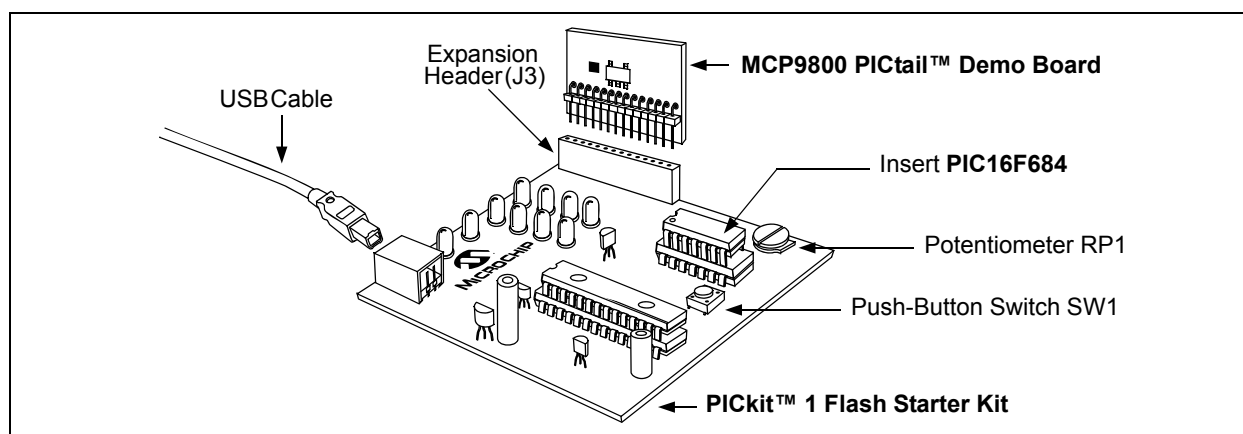
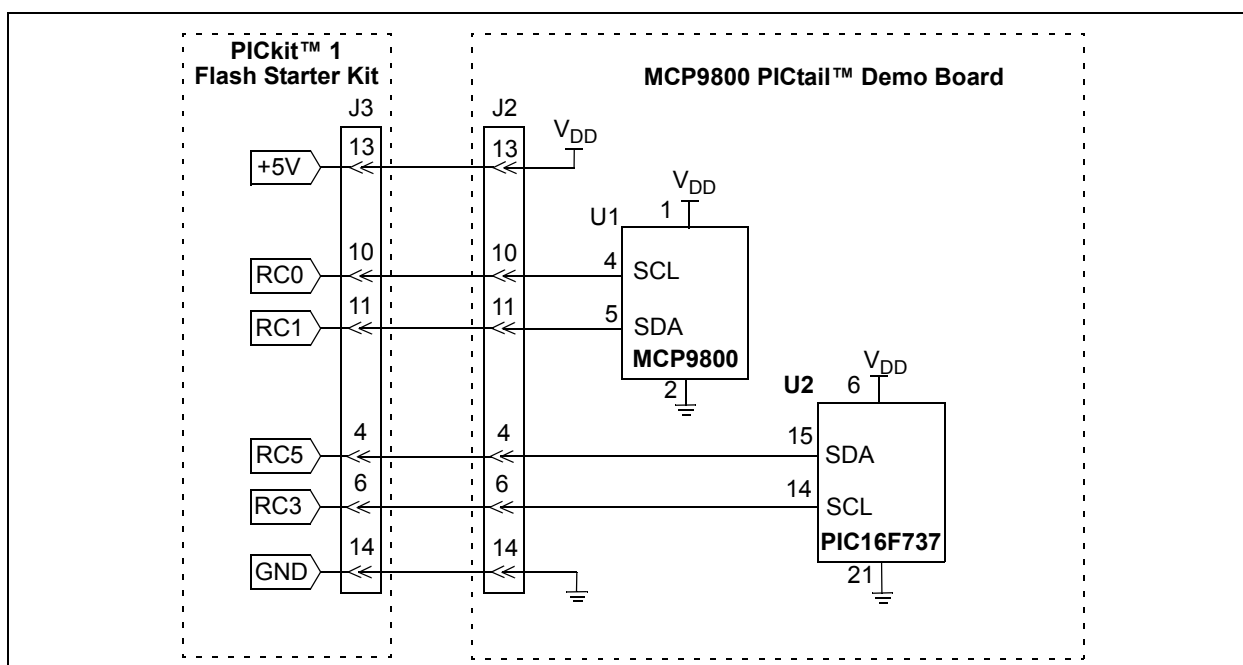

FIGURE 2-2: MCP9800 Thermal Sensor PICtail™ Demo Board and PICKit™ 1 Flash Starter Kit.
FIGURE 2-3: Simplified MCP9800 Thermal Sensor PICtail™ Demo Board Schematic.
1. Connect the J2 header of the MCP9800 Thermal Sensor PICtail Demo Board to the J3 connector on the PICKit 1 Flash Starter Kit. Refer to Figure 2-2 for proper orientation of the MCP9800 Thermal Sensor PICtail™ Demo Board and Figure 2-3 for a simplified board schematic.